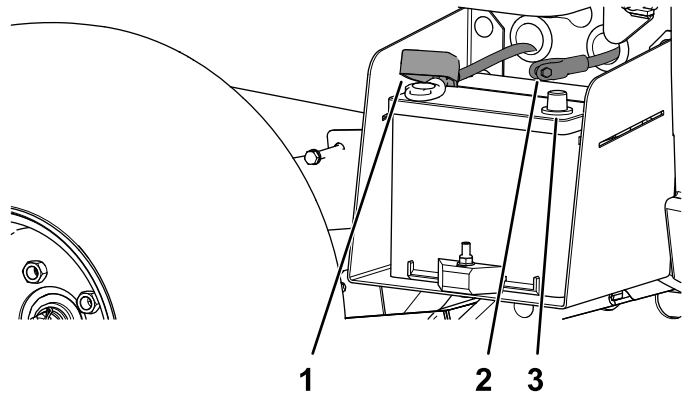

Figure 5
3. Connect the positive battery cable (red) to the positive (+) terminal of the battery and secure the cable with the bolts and nuts (Figure 5).